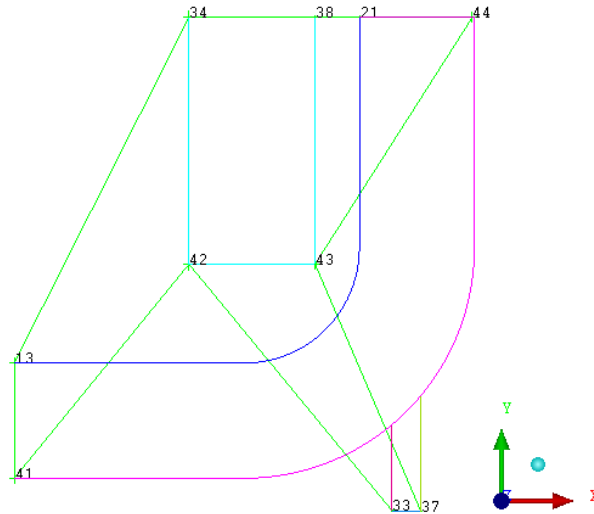

Figure 13: Moving Vertices
- (a) Click  (Select vert(s)) and move the vertices. (Figure 13).